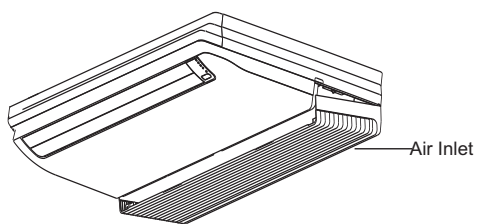

Fig.E1
1. Open the air intake (see Fig.E1).